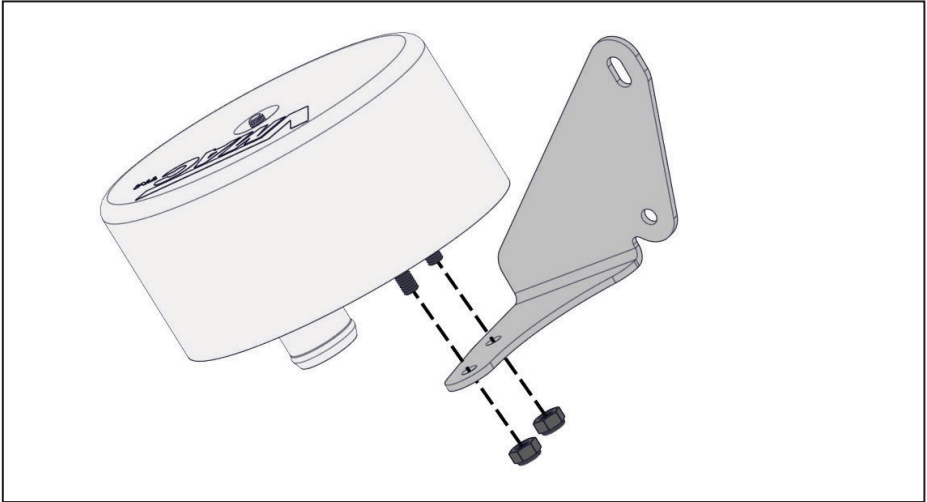

Figure 61 — Air filter and bracket
- Mount the VMAC air filter assembly to the supplied bracket using the supplied M6 nylon lock nuts (Figure 61).